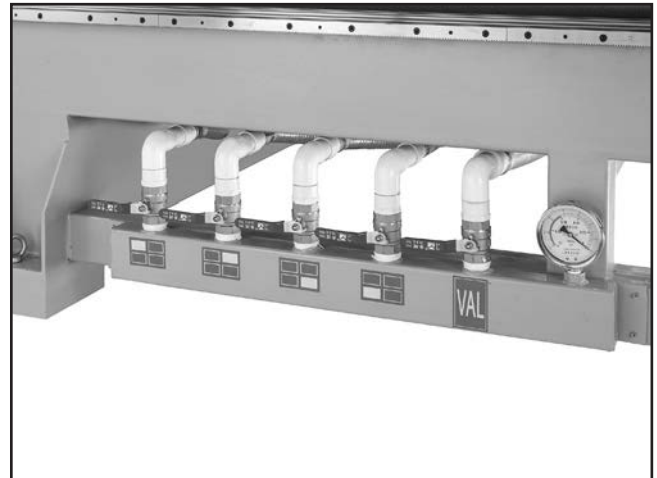

Figure 51. Vacuum zone control valves.
4. Only open vacuum valves (see **Figure 51**) for each zone covered by workpiece. Close all other vacuum valves, and plug all unused vacuum ports.